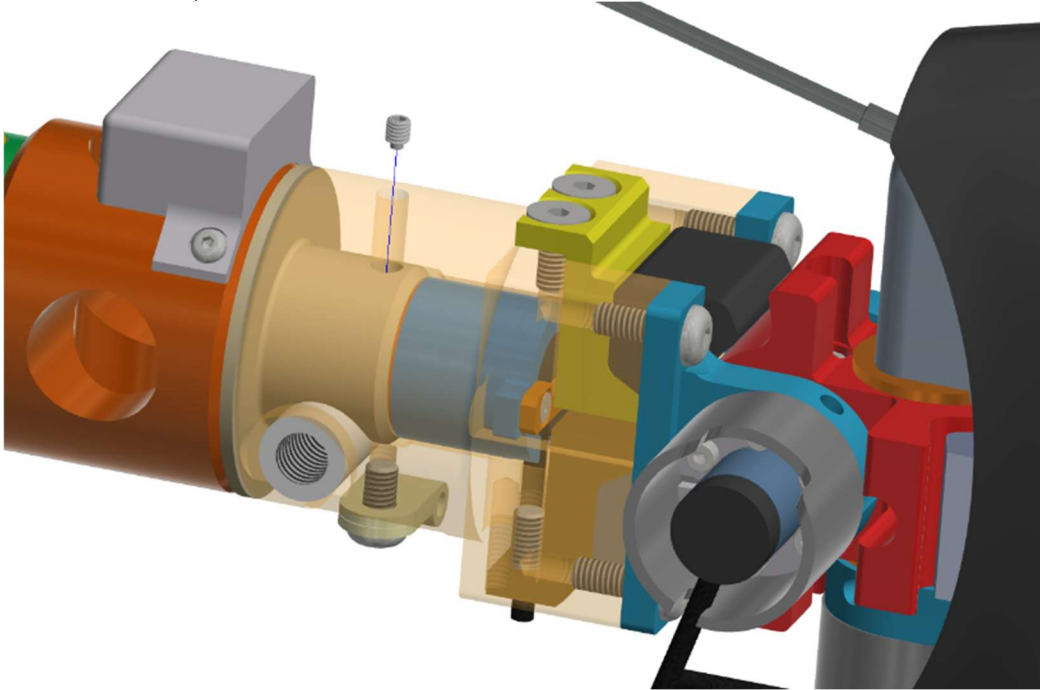

Figure 10-10. Loosen the M3 X 0.5 X 3 LG. SSSNP from the Lower Tibia Load Cell
10.2.6 Loosen the M3 X 0.5 X 3 LG. SSSNP from the Lower Tibia Load Cell (Figure 10-10).